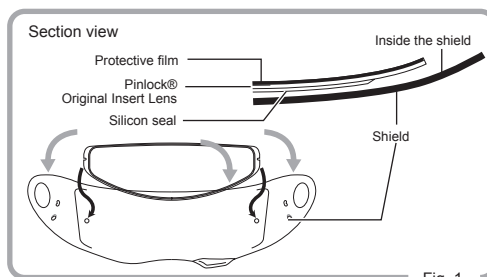

Fig. 1
1. Apply the silicon seal side of the Pinlock® Original Insert Lens on inside the shield, without peeling off the protective film on the lens. At the time, apply the Pinlock® Original Insert Lens on inside the shield by clicking it into the eccentric pins. (Fig 1 and 2)